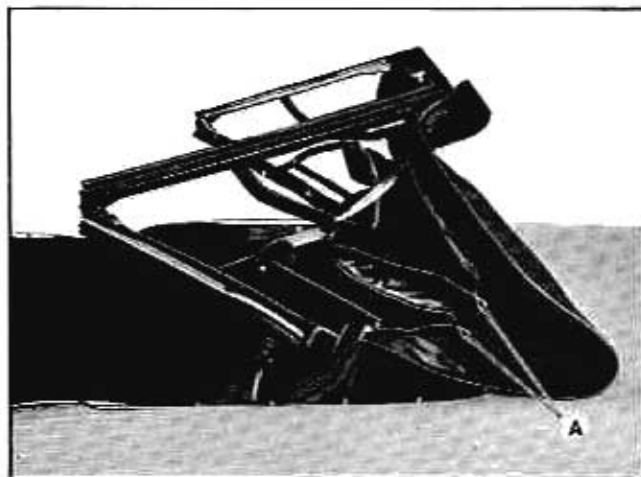

Fig. 7-5 Pull Padding From Between Arms
4. Actuate power top control switch until front top rail is approximately two feet from full down position (Fig. 7-5).
5. On right and left side of body, pull top material and padding A from between operating arms of top (Fig. 7-5).